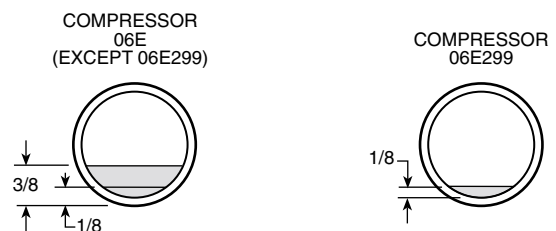

Fig. 67 — Operating Oil Levels (Sight Glass)
8. Oil should be visible in the compressor sight glasses. See Fig. 67. All units are factory charged with oil. Adjust the oil level as required. No oil should be removed unless the crankcase heater has been energized for at least 24 hours. Refer to Oil Charge section on page 62 for Carrier-approved oils.
Compressor Oil — Check that compressor oil is visible in the sight glass of the compressor. All units are factory charged with oil. Observe oil level closely at start-up. If oil level is below the sight glass and cannot be seen, add oil until the level is approximately as shown in Fig. 67. See Oil Charge section on page 62 for information on adding or removing oil.